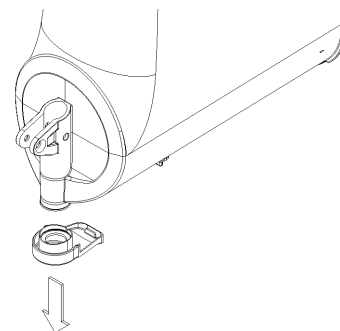

figure 15
**5** Remove the flow restrictor from the container (see figure 15).